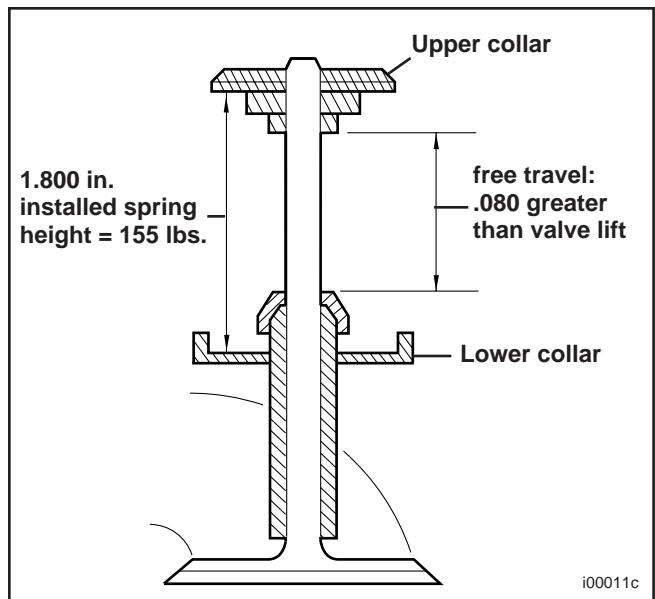

Figure 1.
2. See Figure 1. Using shims required for desired seat pressure (see notes above), install lower valve spring collars, upper collars, and collar keys. Check installed spring height. Add shims or remove material from spring seat to reach installed spring height. Remove upper collar keys and upper collars and assemble cylinder heads following applicable Service Manual procedures.